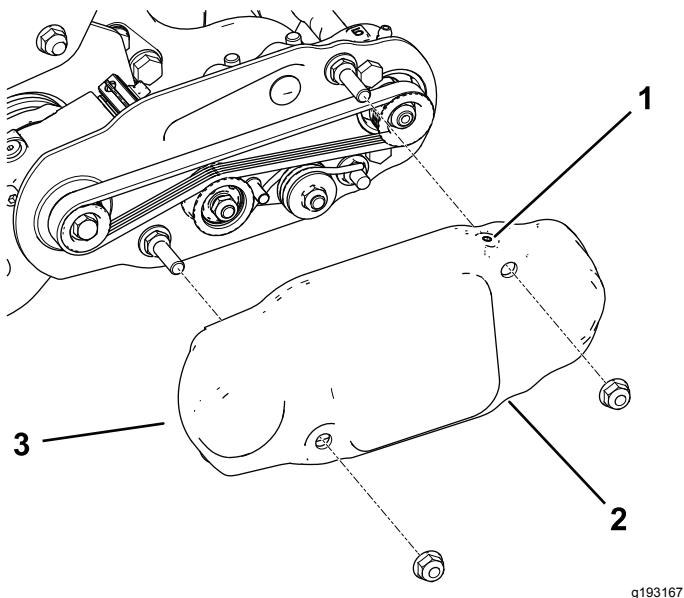

Figure 16
- Slide the belt cover onto the mounting bolts and secure the cover with 2 flange nuts (Figure 16).